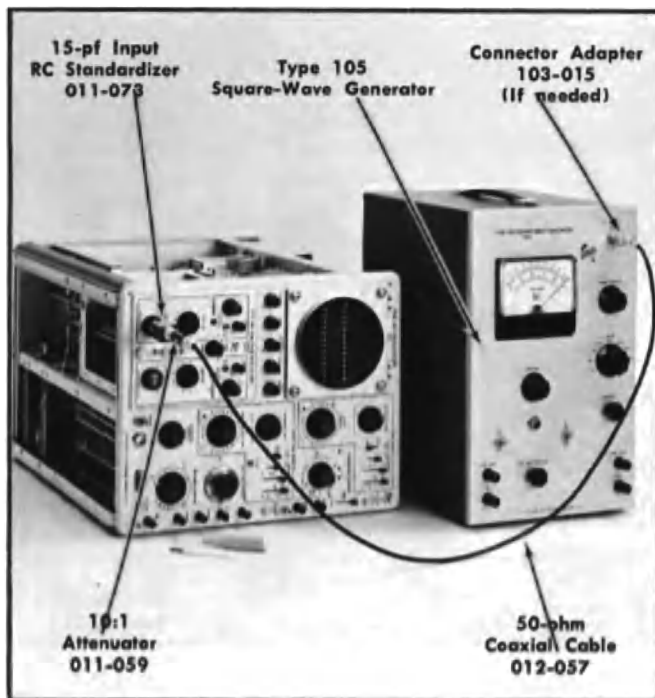

Fig. 6-3. Test setup when performing step 22.
- Connect the output of the Type 105 through an adapter (Part No. 103-015, if needed), a 42" coaxial cable (012-057), 10:1 T attenuator (011-059) and a 15-pf input rc standardizer (item 5) to the Channel 1 input connector on the Type 1A1. Connect all items in the order just given. Fig. 6-3 shows the entire setup.